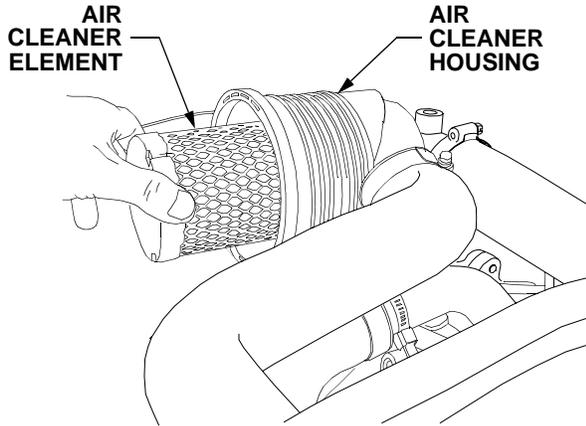

Figure 59
- Pull the air cleaner element from the housing. See Figure 59.